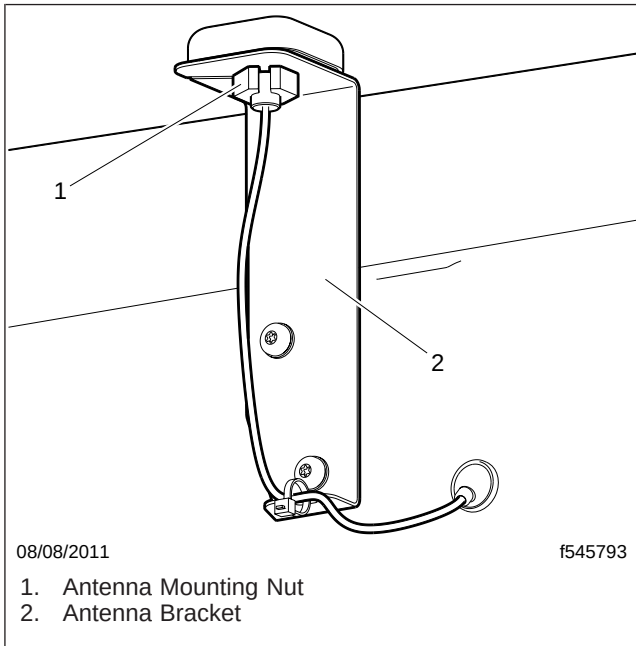

Fig. 3, External Antenna (daycab)
4. Loosen the nut securing the antenna to the mounting bracket on the rear exterior of the cab, and remove the antenna. See Fig. 3.